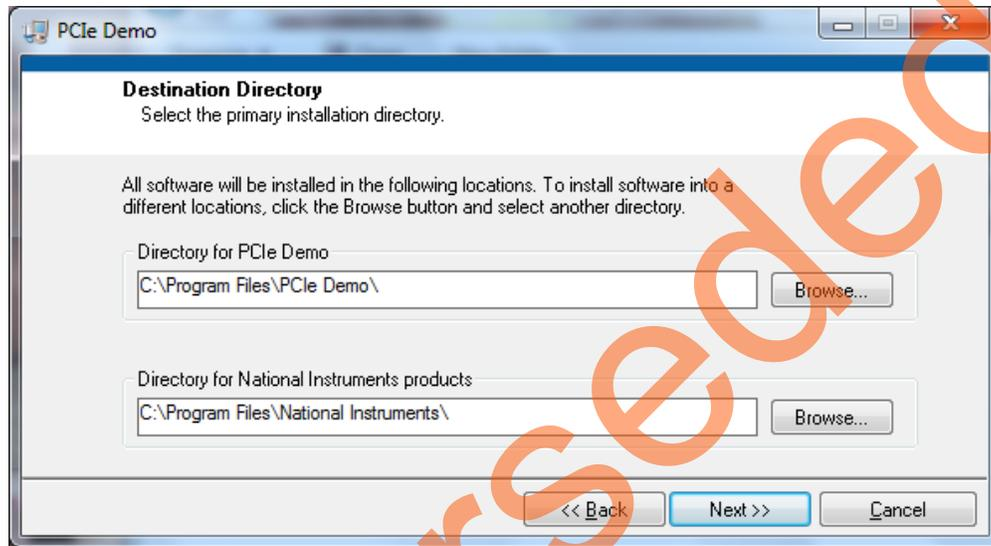

Figure 57 • GUI Installation
2. Double-click the `setup.exe` in the provided GUI installation (`PCIe_Demo_GUI_Installer\setup.exe`). Apply default options as shown in Figure 57.